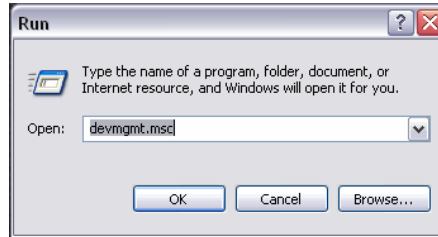

Figure 8: Starting the Device Manager from the Run Dialog
1. Open the Device Manager by selecting the **Start** button, then type "Run" in the search field, then press the keyboard **Enter** key and then type "devmgmt.msc" in the "Open" field. See Figure 8.